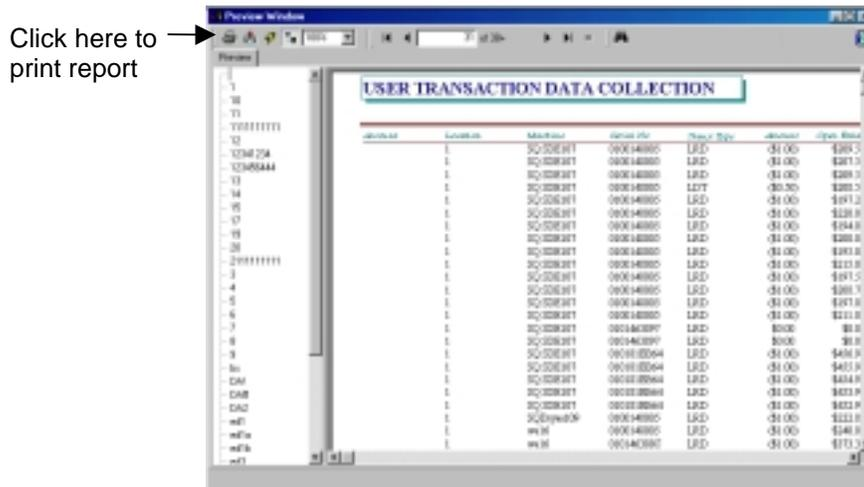

Figure 6.18 Cash Card Report Window
3. The report will be generated and appear on your screen. You can either view it on the screen, or click the printer icon to print the report (Figure 6.18).